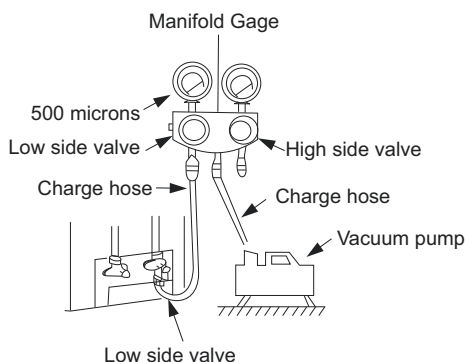

Fig. 7 — Manifold
3. Fully open the low side of manifold gage (see Fig. 7).